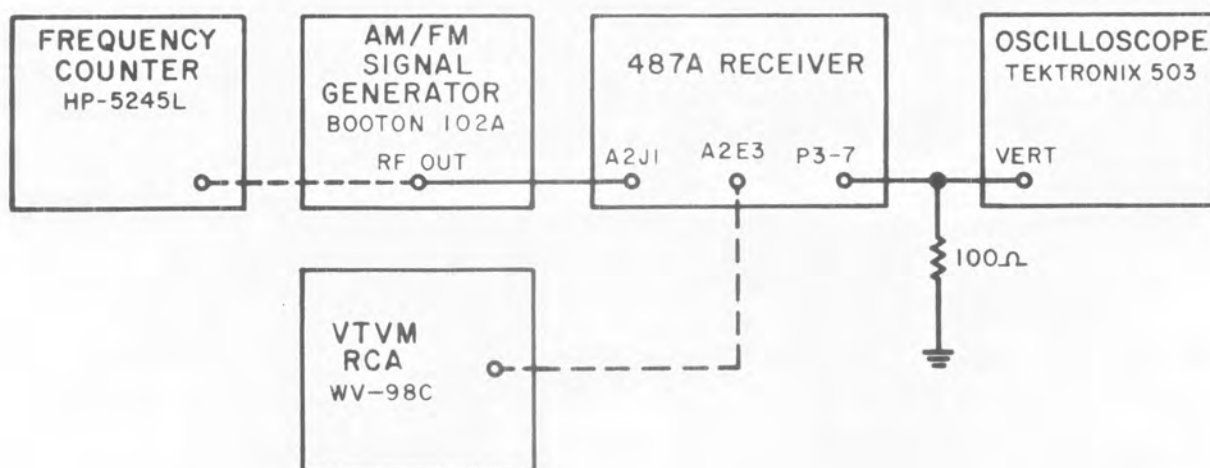

Figure 4-7. Test Setup, IF Demodulator Gain Adjustment
- (1) Interconnect the test equipment as shown in Figure 4-7.
- (2) Set the signal generator to produce a 10 MHz CW signal at the level specified below for the IF bandwidth installed.
- (3) Set the receiver function switch to AM MAN and turn the MAN gain control fully CW.
- (4) Adjust A2A3R4 for a +1 V dc reading on the VTVM.
- (5) Insure the signal generator is set to exactly 10 MHz.